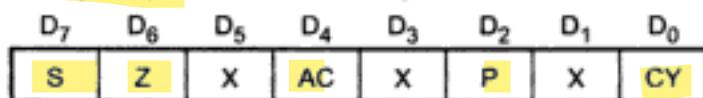

Fig. 1.3 Flag register
b) **Flag Register** : It is an 8-bit register, in which five of the bits carry significant information in the form of flags : S (Sign flag), Z (Zero flag), AC (Auxiliary carry flag), P (Parity flag), and CY (carry flag), as shown in Fig. 1.3.